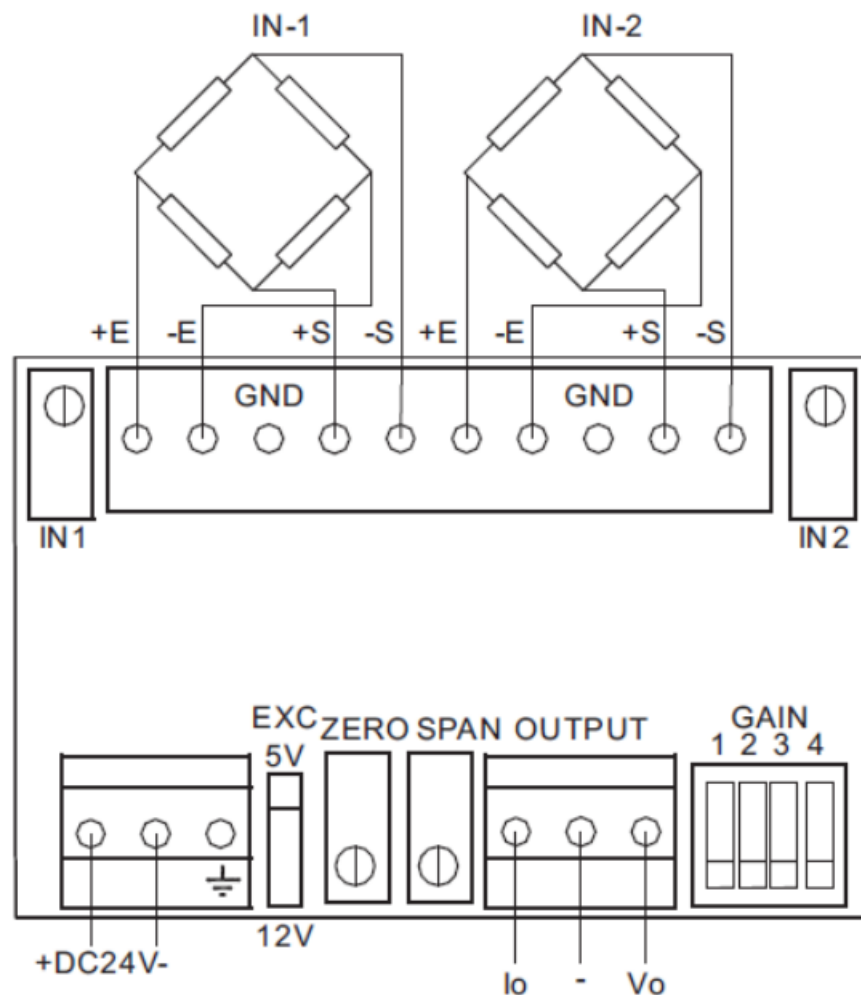

Figure 1.Connection Diagram
As shown in the Figure 1 (Connection Diagram), the left terminal (Io), outputs positive current and the right terminal (Vo), outputs positive voltage. The middle terminal (-) is the common connection for negative current or negative voltage.
Refer on Figure 1, you may slide the switch for (EXC) from either 5V or 12V. The A2P-D2 amplifier can drive a load cells of either 5V or 12V excitation.
The A2P-D2 is applicable for load cells with different sensitivity. It supports 4 ranges of Gain. The user can select suitable gain for different load cell sensitivity, excitation voltage and output signal by setting the 4-bit DIP switch, by adjusting the Zero and Span potentiometer and by configuring the slide switch (EXC), respectively ( refer on Figure 1 ).
2. If Current Signal Output is required, set the output current to 4.00mA by adjusting the ZERO potentiometer ( refer to Figure 1 ).
3. If Voltage Signal Output is required, set the output voltage to 0.00V by adjusting the ZERO potentiometer ( refer to Figure 1 ).
2. If Current Signal Output is required, set the output current to 20.00mA (for 100% of max. capacity load ) by adjusting the SPAN potentiometer ( refer to Figure 1 )
3. If Voltage Signal Output is required, set the output voltage to 10.00V ( -10.00V ) for 100% of max. capacity load or 5.00V ( -5.00V ) by adjusting the SPAN potentiometer ( refer to Figure 1 ).